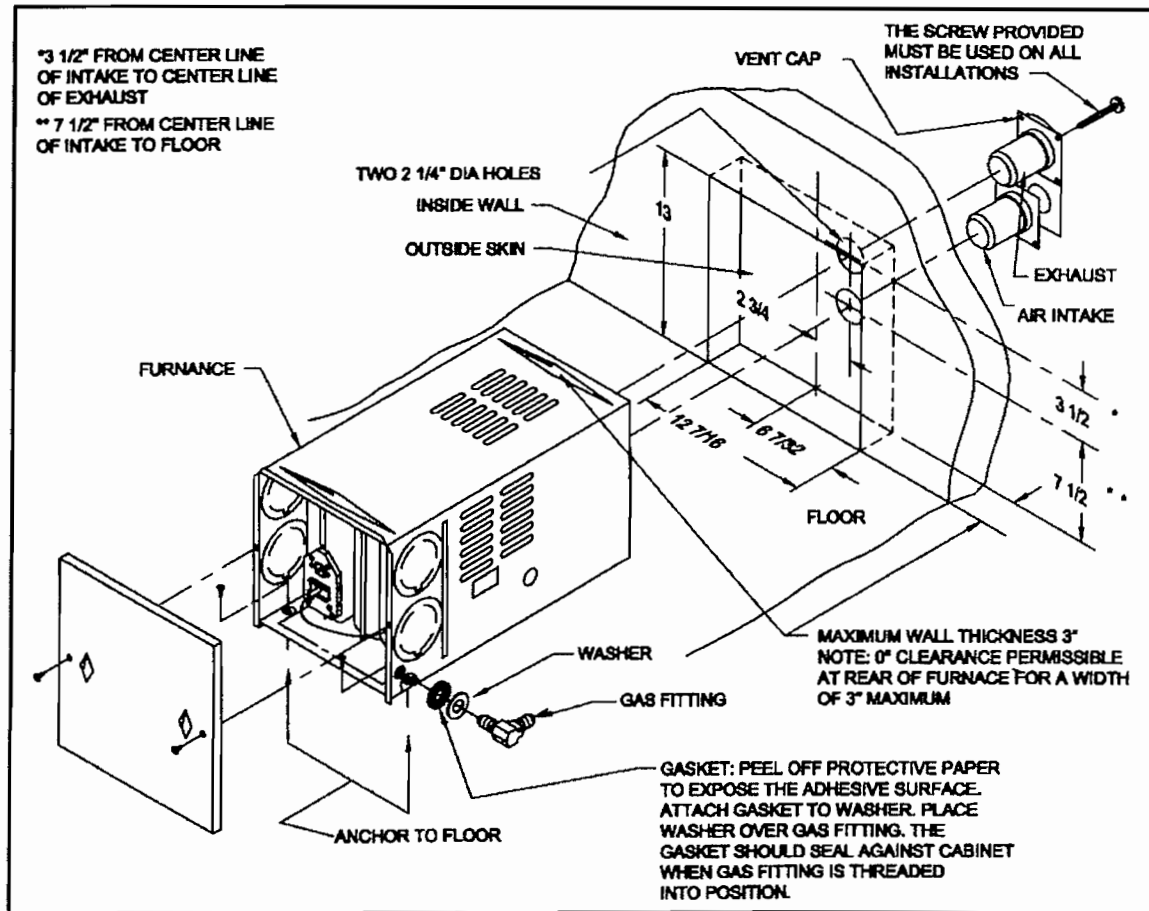
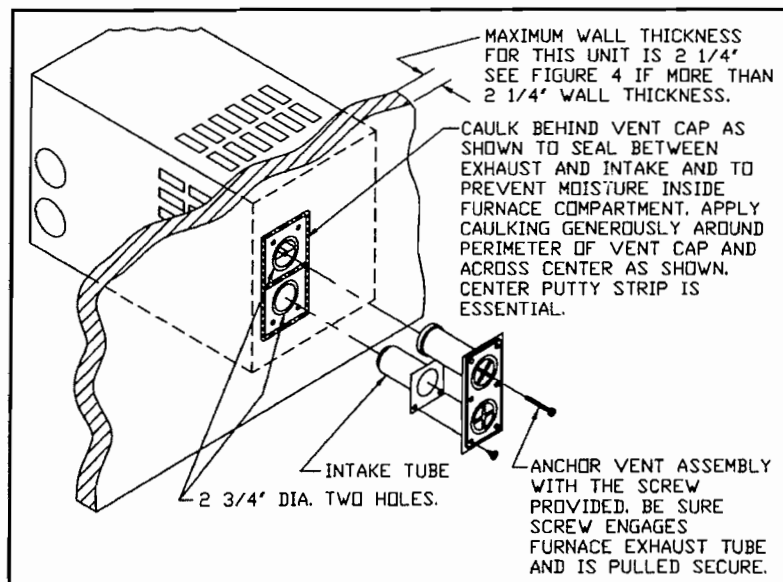

Figure 1
Figure 2
4. Locate center lines for exhaust and intake tubes as shown in Figure 1. Cut two 2 3/4" diameter holes through coach wall for exhaust and intake. (See Figure 2.)
6. Fasten furnace to floor of coach using the two holes provided in front plenum area of furnace cabinet. (See Figure 1.)
1. Apply caulking to RV skin behind vent cap as shown in Figure 2. Apply caulking generously around perimeter of vent cap and across center as shown.
2. Insert intake tube through RV skin and slide it onto the furnace intake (See Figure 2.) Minimum tube overlap of 1/2" is required.
3. Insert vent cap exhaust tube through RV skin and slide it onto the furnace exhaust (See Figure 2.) Minimum tube overlap of 1 1/4" is required.
4. Attach vent cap assembly to outer skin of RV with the six (6) screws provided. Do not install vent assembly upside down. The words "Suburban" and "Dayton, Tenn." must be right side up.
5. Attach the vent assembly to the furnace using the special 3 1/2" screw provided. Insert screw through hole provided in exhaust opening of vent assembly and secure to bracket in exhaust tube of furnace. This anchors the furnace to the vent assembly and the outer skin of the RV (See Figure 2.)
1. Be sure that the gas fitting is outside of the furnace jacket and easily accessible. (See Figure 1.) The fitting may be connected directly to the 90° elbow at the gas inlet to the furnace. To assure an airtight seal, be sure the gasket provided with the furnace is installed between the fitting and the furnace cabinet, as illustrated in Figure 1. If this gasket is omitted, it could result in overheating of component parts within the furnace.